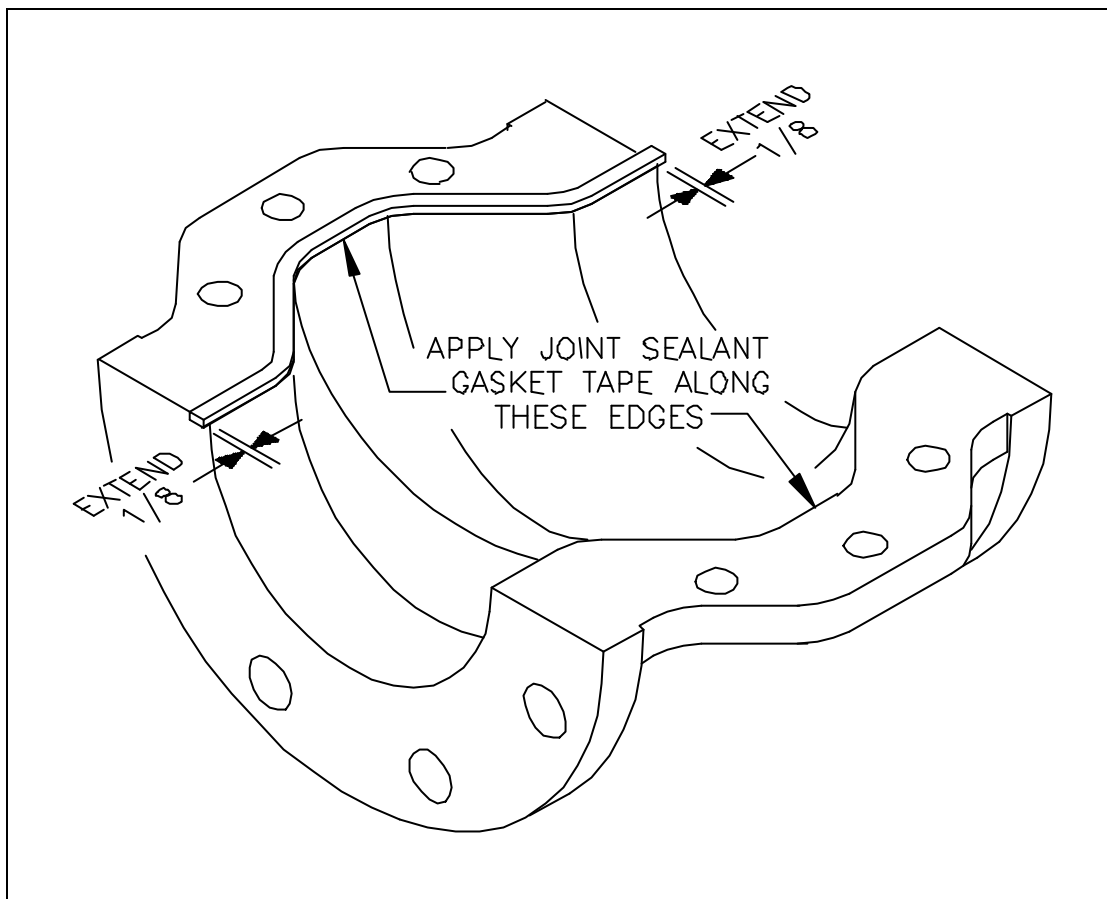

Figure 4-1: Joint Sealant Gasket Tape Application
STEP 3: PTFE Teflon joint sealant gasket tape is sufficient to seal the valve body halves for many common sizes. Apply the tape to only one of the valve body halves, not both. The tape should follow the interior perimeter of the valve body half with a 1/8" extension beyond the body (see figure 4-1). Consult valve Bill of Material (BOM) for type and width, or from Table, below: